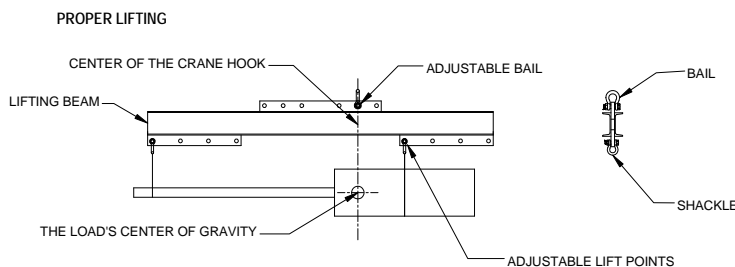

Figure 1
5. See Figure 1, the Lifting Beam is level/horizontal, proper lifting position.